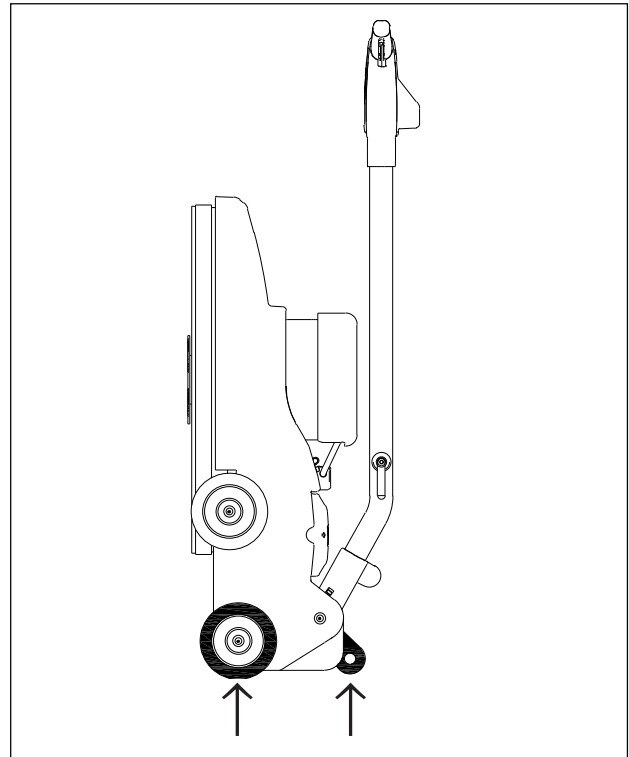

Figure 5
9. Tilt the machine so that it sits on its rear wheels and link arms. See figure 5.